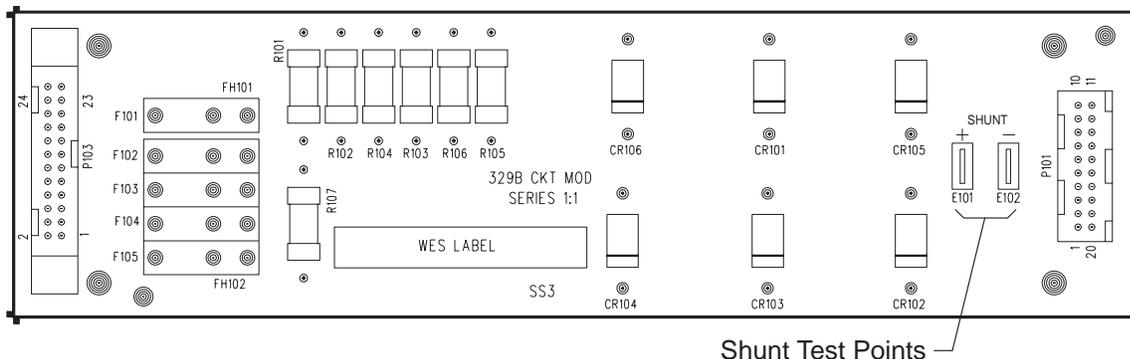

Figure 7-3: CM1 (329B) Fuse Board
For safety, make measurements for current on CM1 at E101 and E102 at the shunt (+) and (-) test points. (See Figure 7-3).
7. Turn off rectifier. Replace fuse on 329B fuse board with blown fuse. Turn on rectifier. Rectifier should shut down immediately and the **RFA** alarm, **FA** (fuse alarm), and the **RFA LED** on test set should light. (See Figure 7-3.) Turn off rectifier and replace blown fuse.